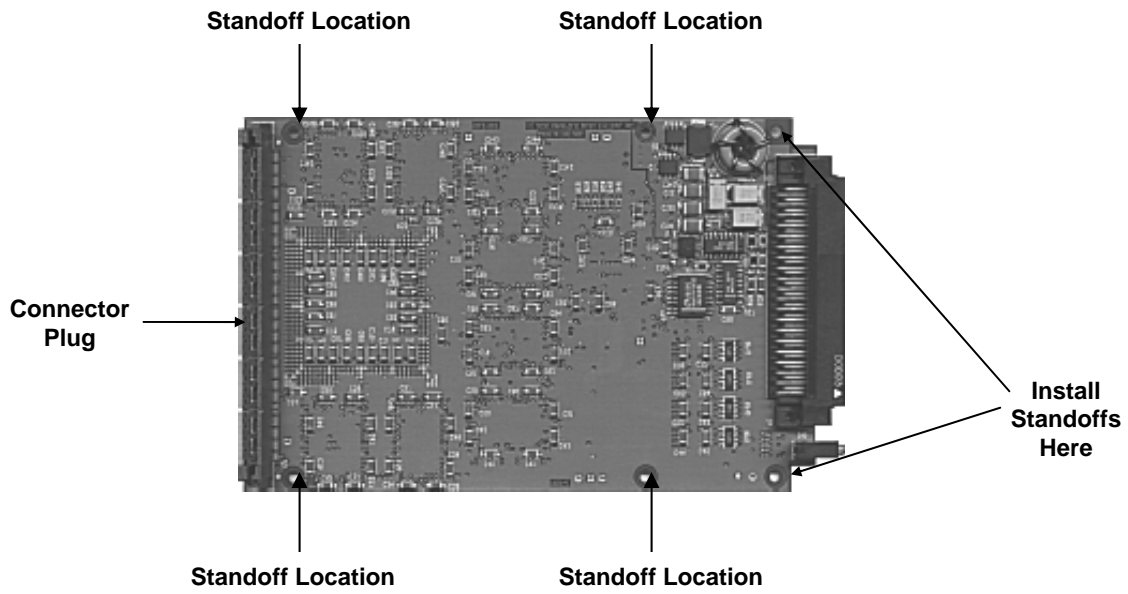
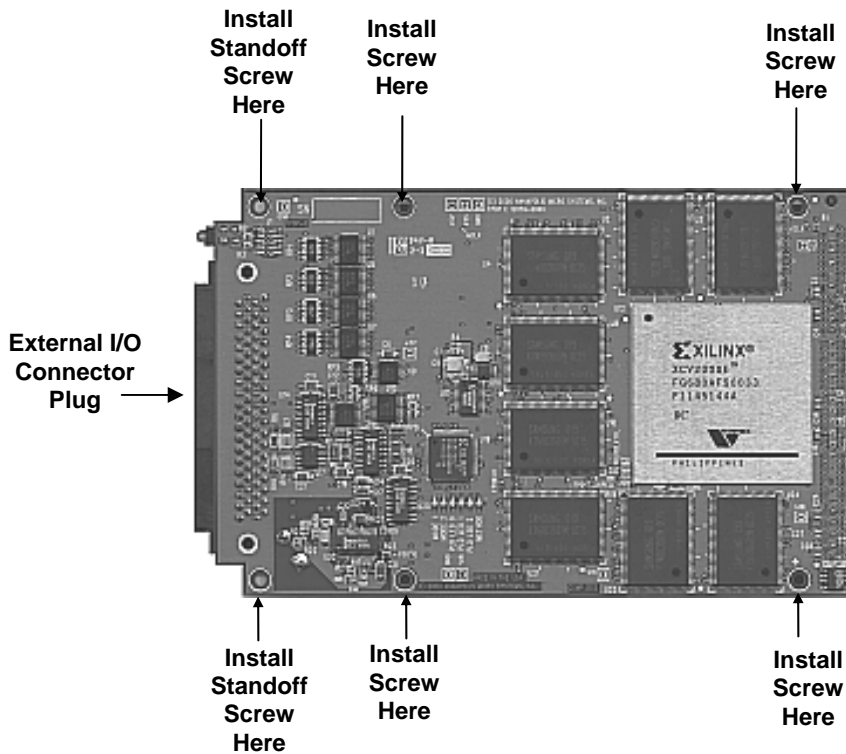

Figure 4-2: FPDP-E I/O Card (Solder Side)
Figure 4-3: FPDP-E I/O Card (Component Side)
8. Attach six, 11mm standoffs (included with the card package) to the solder side of the FPDP-E I/O Card, using six, M2.5 x 4mm screws to secure the standoffs. See Figure 4-2 for standoff locations, and Figure 4-3 for screw locations.